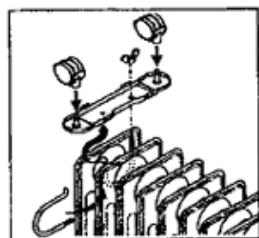

Fig. 1
- Put the wheels assemblies onto the radiator by placing the U-shaped bolts between the outermost fins on each side of the radiator. If the radiator has 7 or 9 fins, install the wheels plate between first and second fin each side, as shown at figure 1